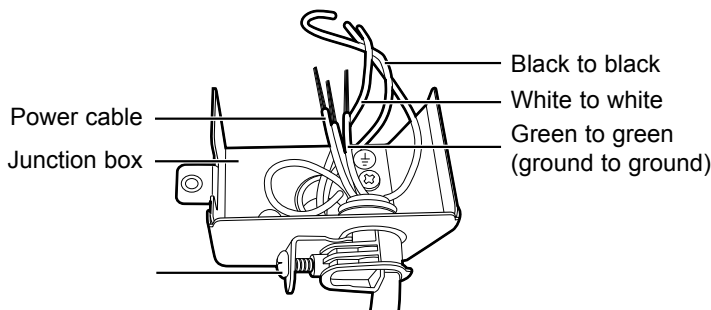

Figure 11
3. Pass the power cable through the strain relief, and then into the junction box (Figure 11).